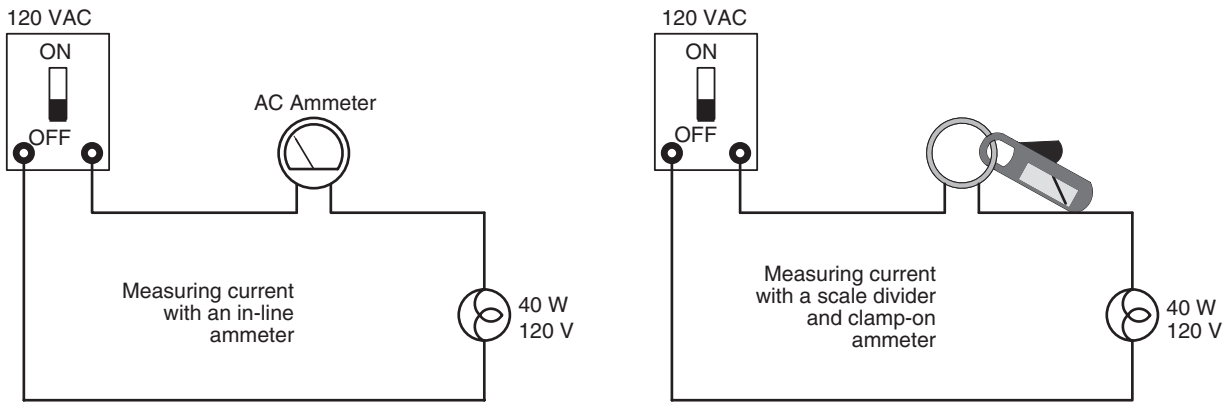

Figure 2-3 Current can be measured using an in-line ammeter or with a scale divider and clamp-on ammeter.
3. Make certain that the power is turned off. Using the 40 watt lamp, connect the circuit shown in Figure 2-3. A clamp-on-type AC ammeter may be substituted for the in-line